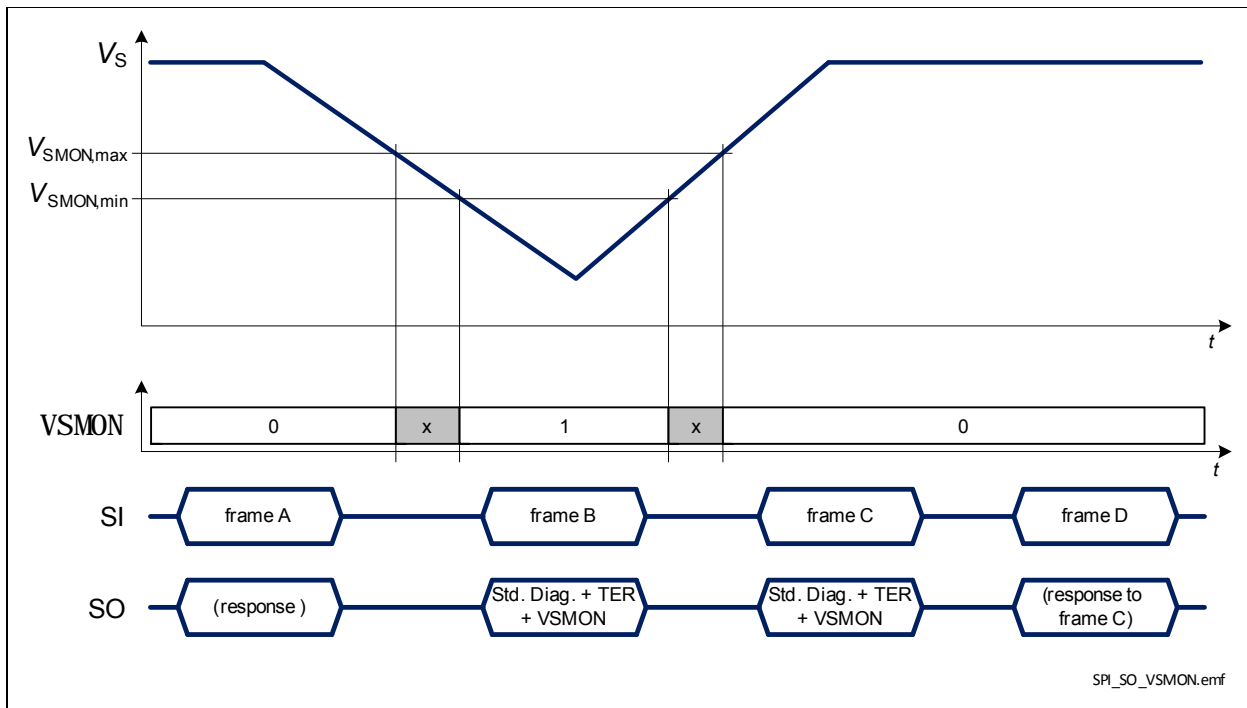

Figure 34 BTS54220-LBE response in case of a negative battery voltage transient
- when $V_S < V_{SMON}$ and **DCR.MUX** $\neq 111_B$, as shown in **Figure 34**